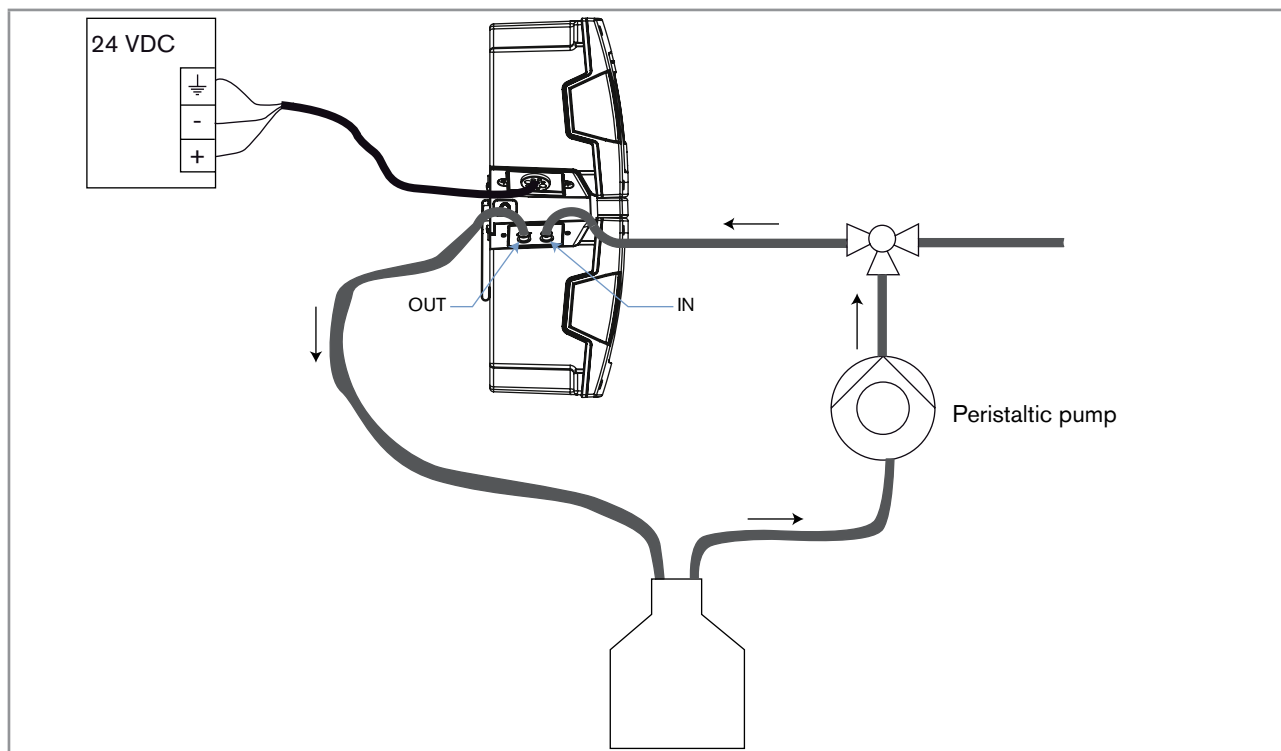

Fig. 3: Installation for the calibration of the product in a system type 8905
1. Connect a peristaltic pump in the water sample inlet circuit of the system, as shown in Fig. 3. If the fluidic connections are not done correctly, the product and the system can be damaged because the pressure in the product and in the system is too high.